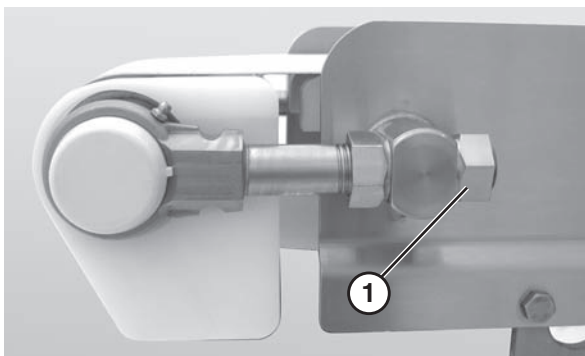

Figure 50
- Loosen the back nuts (**Figure 50, item 1**) on both sides of the idler tail shaft.